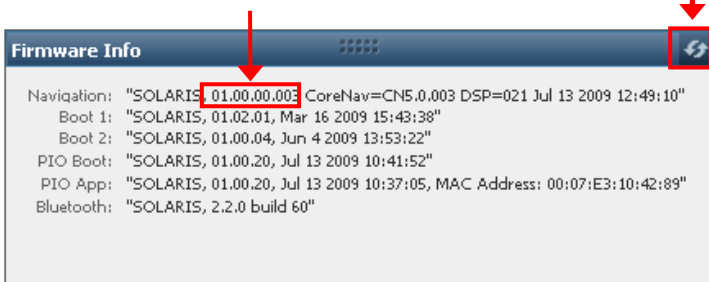

Figure 8: Example of Installed Firmware
18. Click  (refresh) on the *Firmware Info* window to view the current output data (see Figure 8).
37. Check the *Firmware Info* window (see Figure 8) to view the current versions of all uploaded firmware.